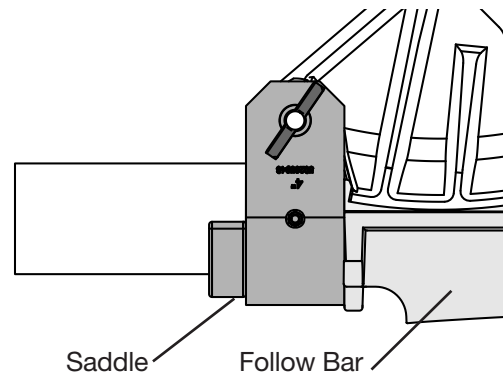

Figure 12
18. Adjust the saddle and shoe so the back edge contacts the follow bar. (Fig. 12)